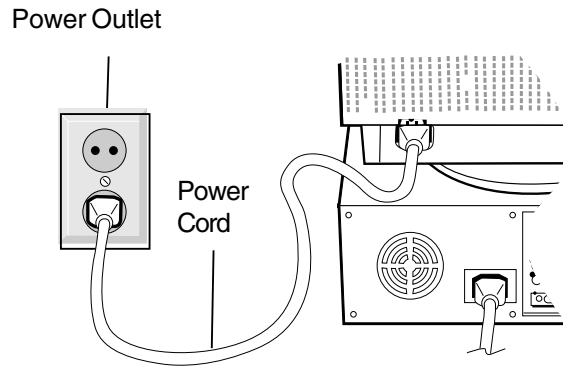

Figure C.1
4. Connect one end of the power cord to the Diamond Pro 750^{SB} / Diamond Plus 93^{SB} monitor and the other end to the power outlet (**Figure C.1**).